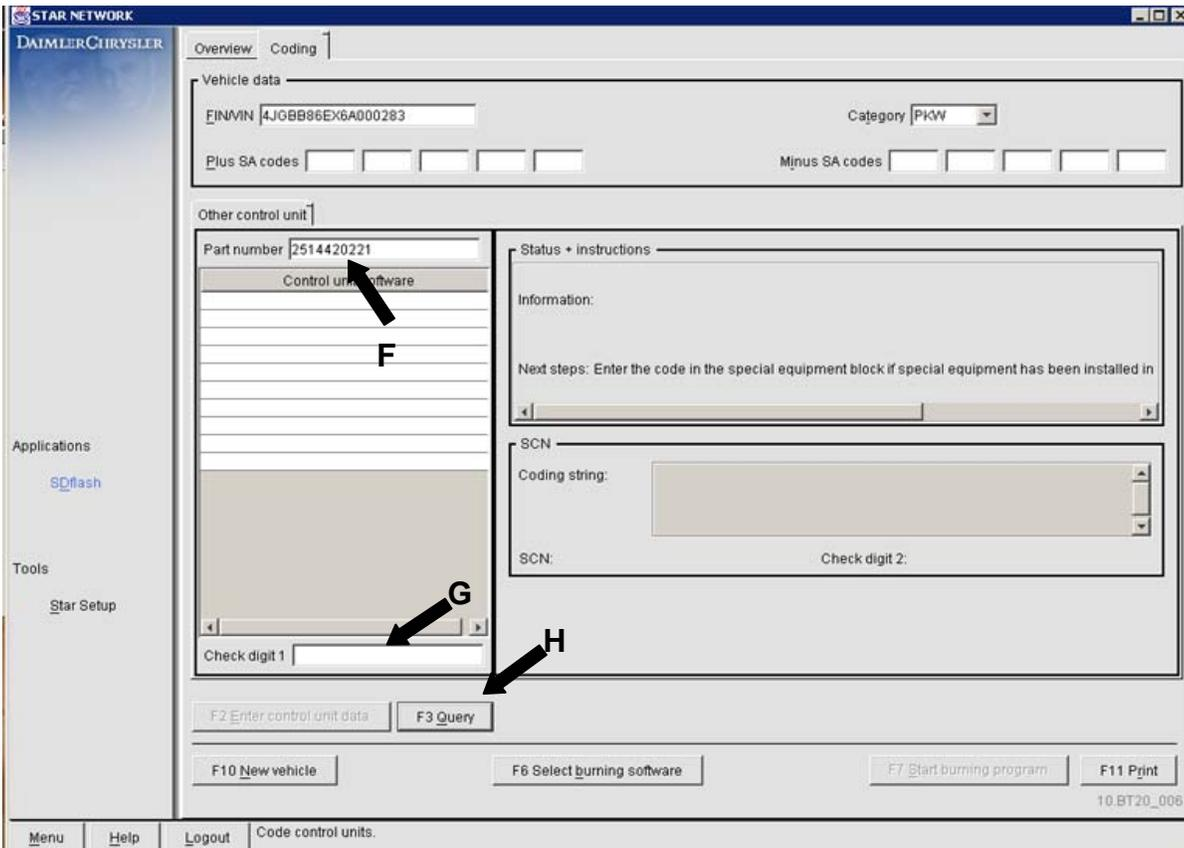

Figure 7
- (F) Enter the Part Number/MBobject Number of the control unit (Figure 7).
- (G) Enter the Check Digit [1] (Figure 7).
- (H) Click 'F3 Query' button (Figure 7).